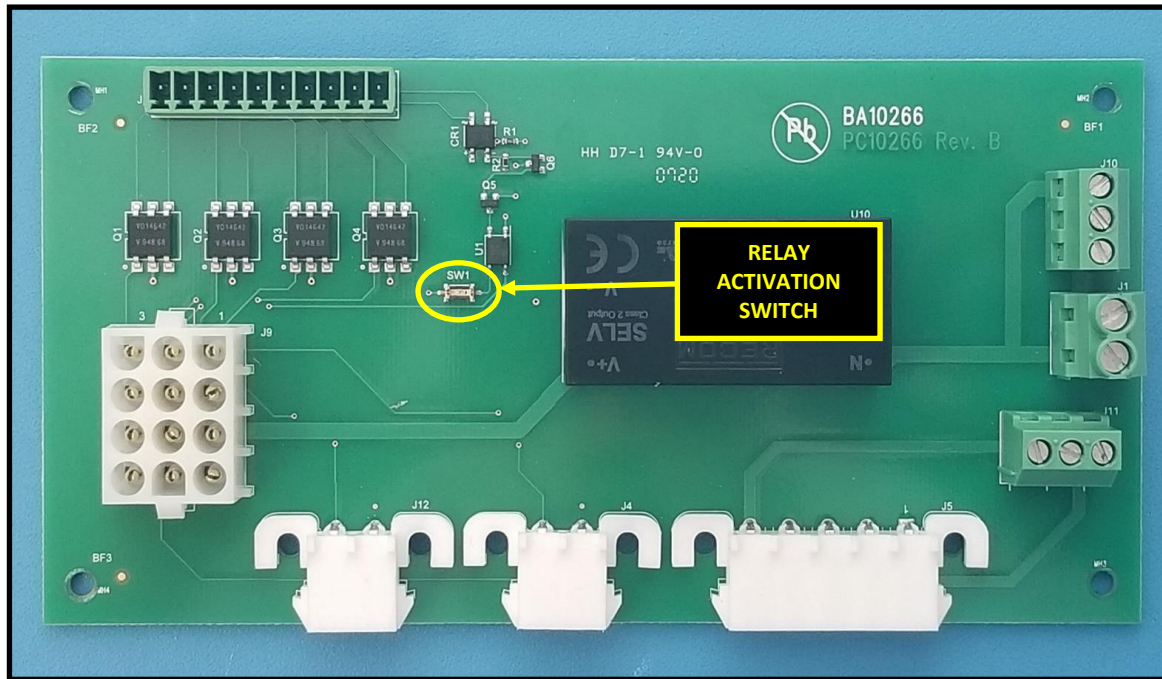

Figure 2
3. Locate relay activation switch on the relay board as shown in Figure 2.